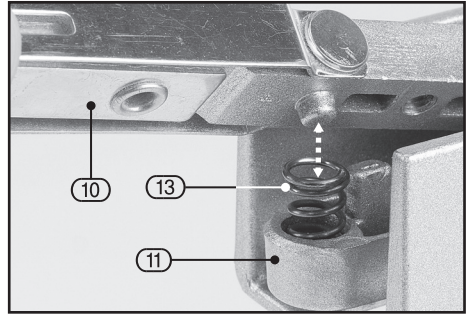

FIG.1
8.1 FITTING THE SANDING HEAD – FIGS.1 – 4